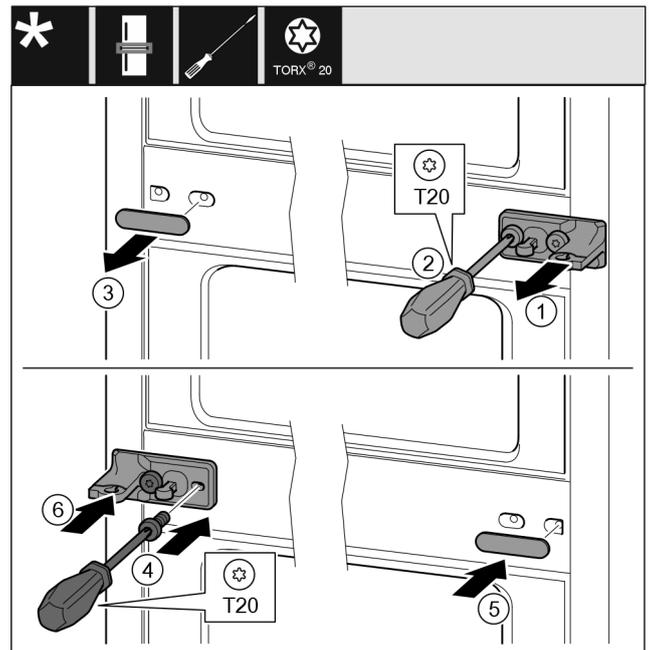

Fig. 40
- ▶ Remove the washer Fig. 40 (1).
- ▶ Unscrew screws Fig. 40 (2) with screwdriver.
- ▶ Remove the cover Fig. 40 (3) carefully.
- ▶ Turn the bearing block with film Fig. 40 (4) by 180° and screw it tight on the other side.
- ▶ Turn the cover Fig. 40 (5) by 180° and attach to the other side.
- ▶ Slide on the washer Fig. 40 (6) from the front.